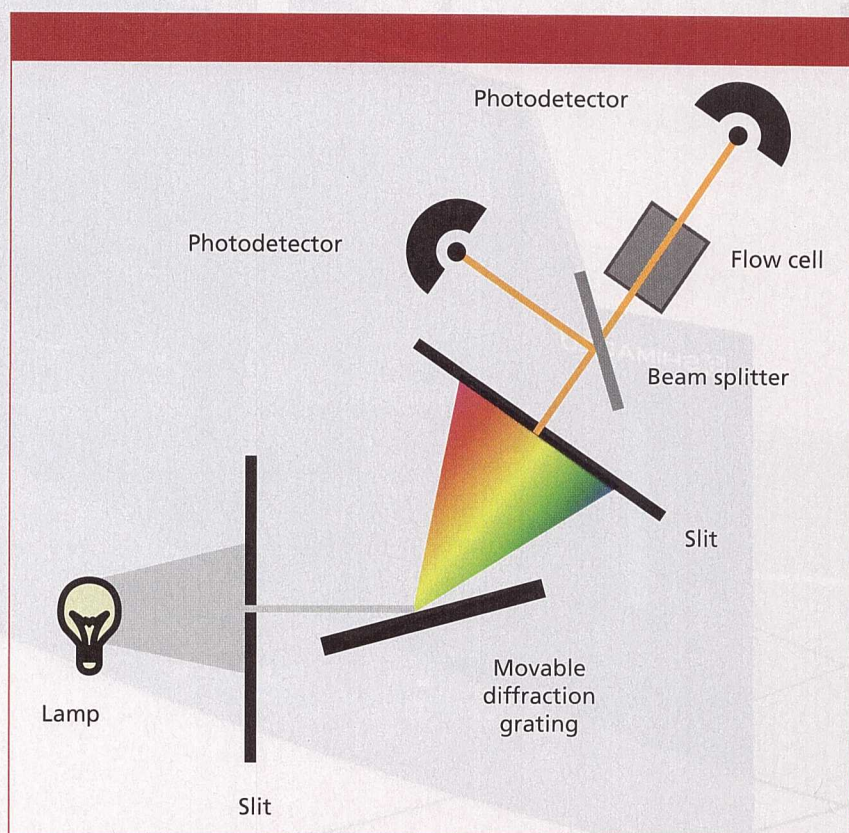

Figure 1: Schematic diagram for a variable-wavelength UV detector.
tor is shown in Figure 1. Light from a deuterium lamp is directed through a slit onto a diffraction grating, which spreads the white light into its various wavelengths. The grating is rotated to direct the desired portion of the spectrum through another slit. The slit width, or spectral bandwidth, typically is approximately 5 nm. The light is then directed through the flow cell onto a photodiode. As sample passes through the flow cell, the amount of light transmitted to the photodetector is reduced, and this difference in transmittance is converted into the detector output in absorbance units (AU). Commonly a beam splitter is included, directing part of the light to another photodiode. This configuration allows the electronics to make corrections for fluctuations in the lamp intensity and thus improve the optical performance of the instrument.